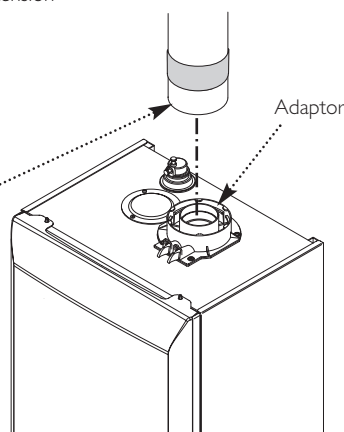

Fig. 47
17. Engage the extension into the adaptor up to this position (Fig. 47). Once the installation of the flue is complete and all support brackets are securely in place remove the tape.